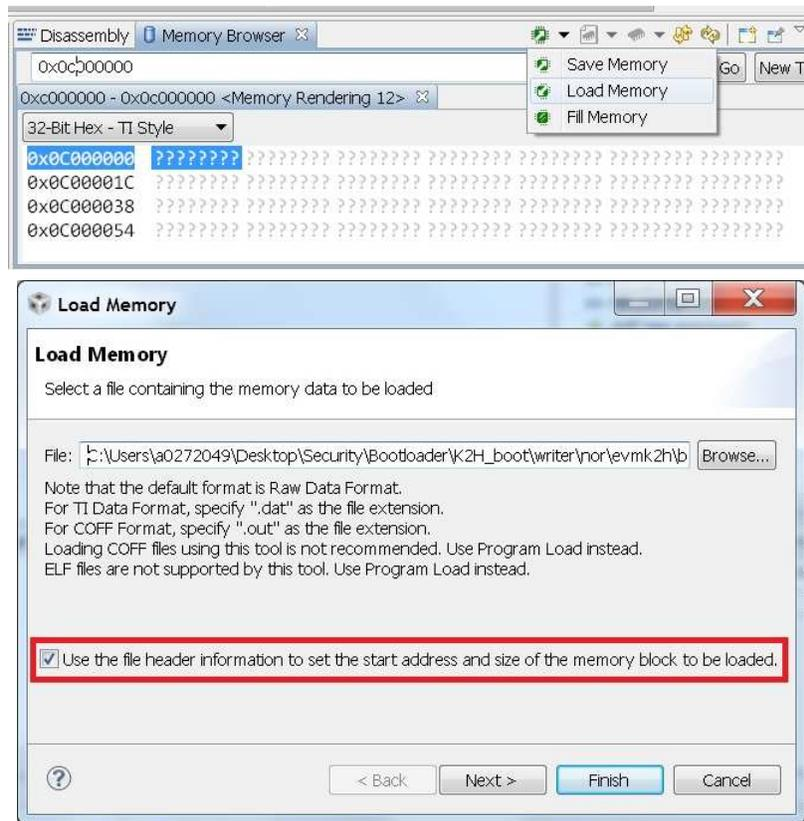
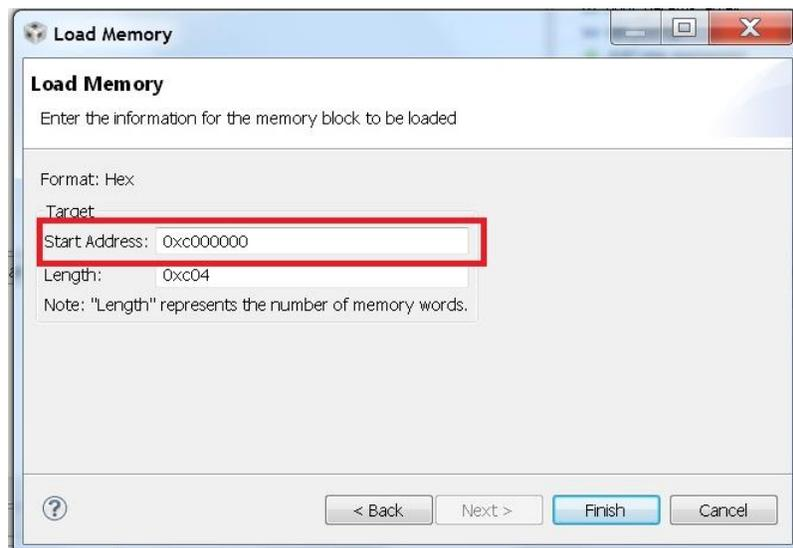

Figure 2. CCS Load Memory Option in Memory Browser
Figure 3. CCS Load Memory With I2C Boot Binary
6. Go to the "View" menu; open and select "Load Memory" in the memory browser. Browse to the boot image and select "Use the file header to set the start address and size of the memory block to be loaded. For reference on loading memory, see Figure 2 and Figure 3.
6. Go to "View" menu and select "Load Memory" in the memory browser. Browse to the boot image and select "Use the file header to set the start address and size of the memory block to be loaded. For reference in loading memory, see Figure 2 and Figure 3.